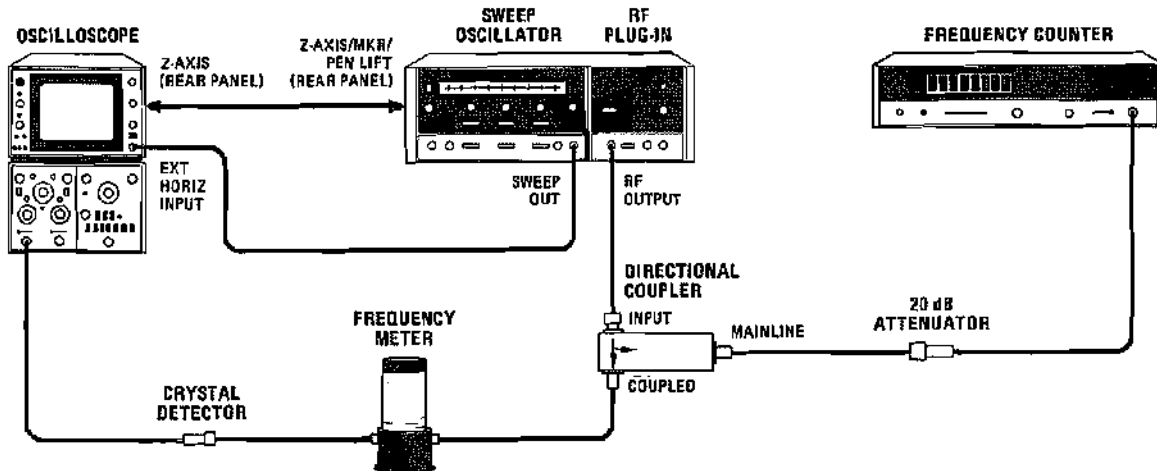

Figure 4-2. Swept Frequency Endpoint and Marker Accuracy Test Setup
- g. Connect equipment as shown in Figure 4-2.